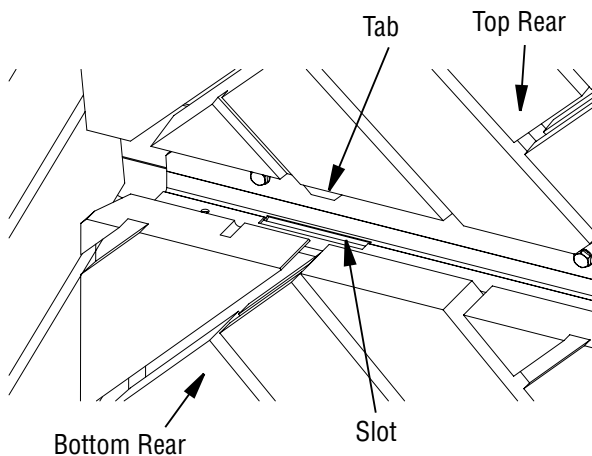
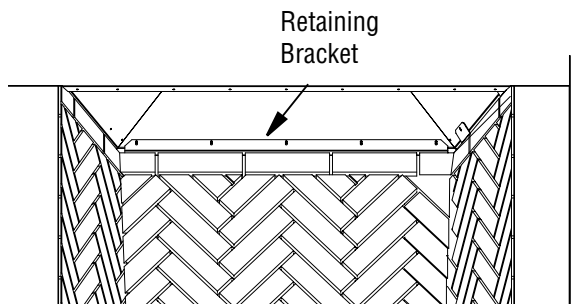

Figure 32 - Installing Top Rear Wall
Figure 33 - Installing Top Rear Wall
5. Install the rear top firebrick wall. Lift the panel up with the front of the firebrick wall facing toward the front of the fireplace. The bottom of the panel has two tabs that slide into the bracket on the top of the bottom rear panel (Figure 32). Secure the top of the firebrick wall with the rear retaining bracket provided. The bracket will slip underneath the metal lip on the top of the firebrick wall and screw into the inner dome of the fireplace (Figure 33).